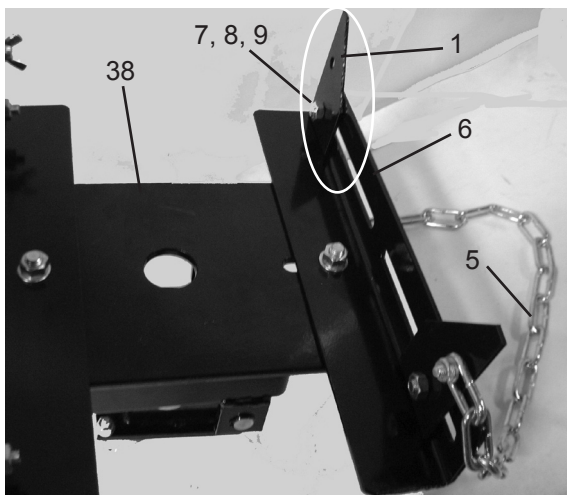
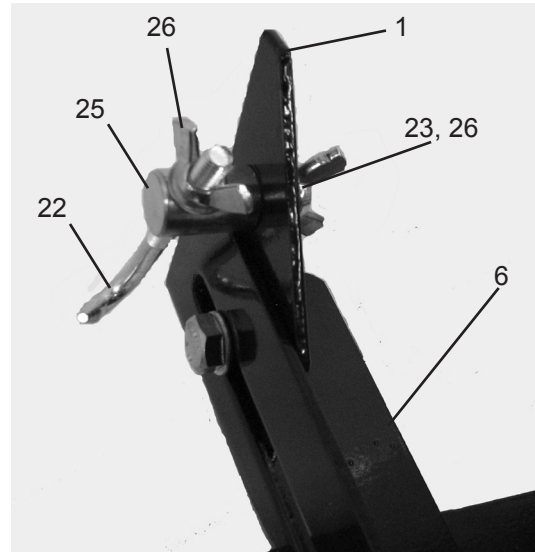

Figure 2
Figure 3
- Attach a pair of Angle Support Brackets (1), with the slanted faces pointing inward, using Bolts (9), Washers (8), and Nuts (7). See Figure 2. **NOTE:** Finger tighten only, as adjustments may be needed later.
- The Chain (5) comes assembled to one of the Angle Support Brackets. See Figure 2. Use Nut (23), Eye Bolt Pin, (25) and Wing Nuts (26) to attach Hook Bolt (22) to Support Bracket on **opposite** corner from Chain. See Figure 3.